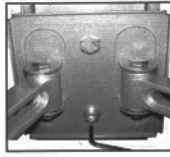

Fig. 8 - Use the Alley Key to loosen the horizontal adjustment screw and level your display.
- If you find that your display is not level, first loosen the horizontal adjustment screw located behind the mount (see Fig. 8) using the Allen Key provided in your hardware kit. Carefully level your display and re-tighten the adjustment screw.